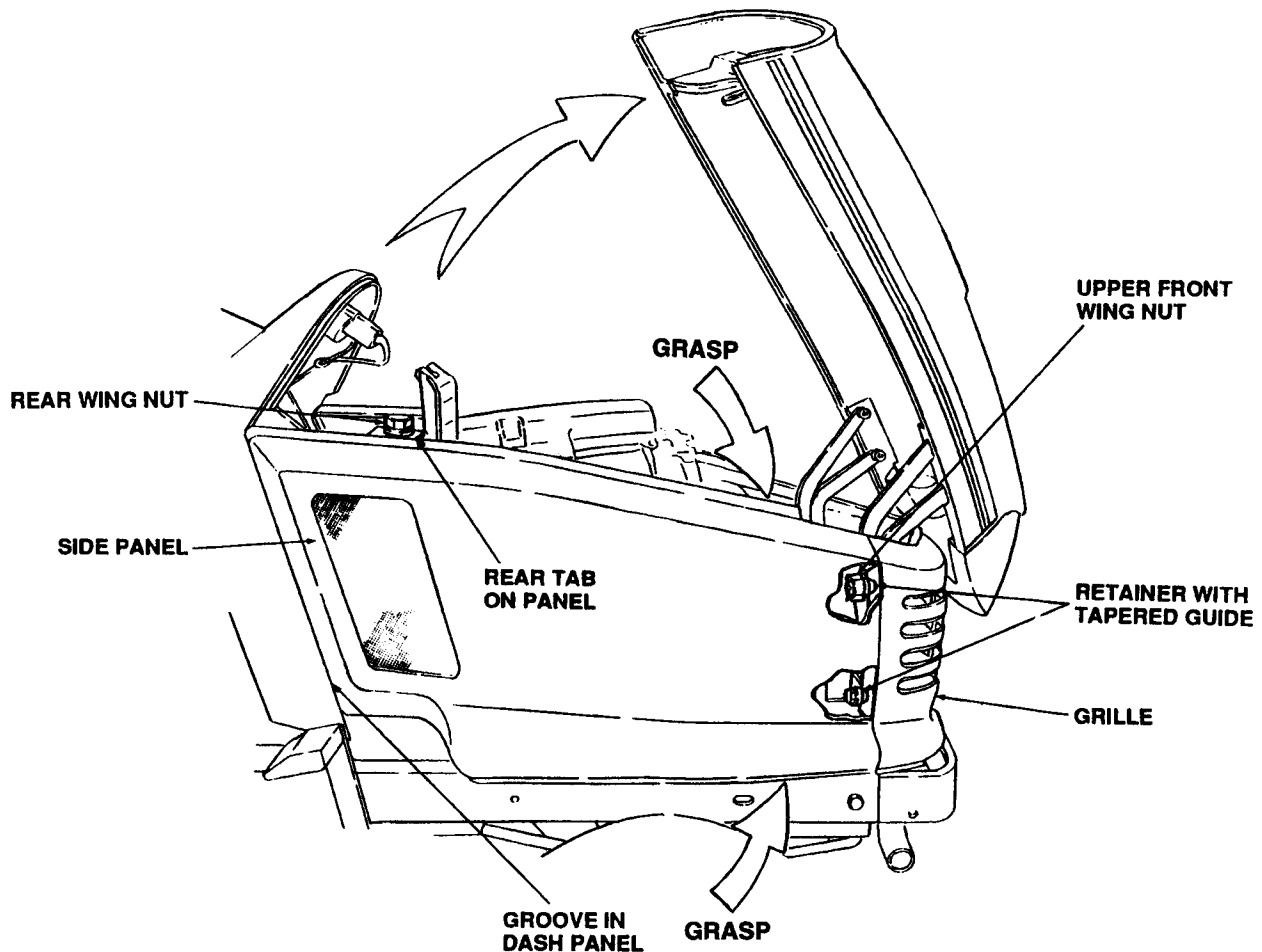

Figure 5-2. Side Panel Removal.
- a. Open the hood and loosen the rear wing nuts (see Fig. 5-2).
- b. Loosen the upper front wing nuts (Fig. 5-2) on each side of the grille.
- c. Grasp the side panel just behind the grille (Fig. 5-2) and pull outward to release the side panel from the tapered bushings on the grille.